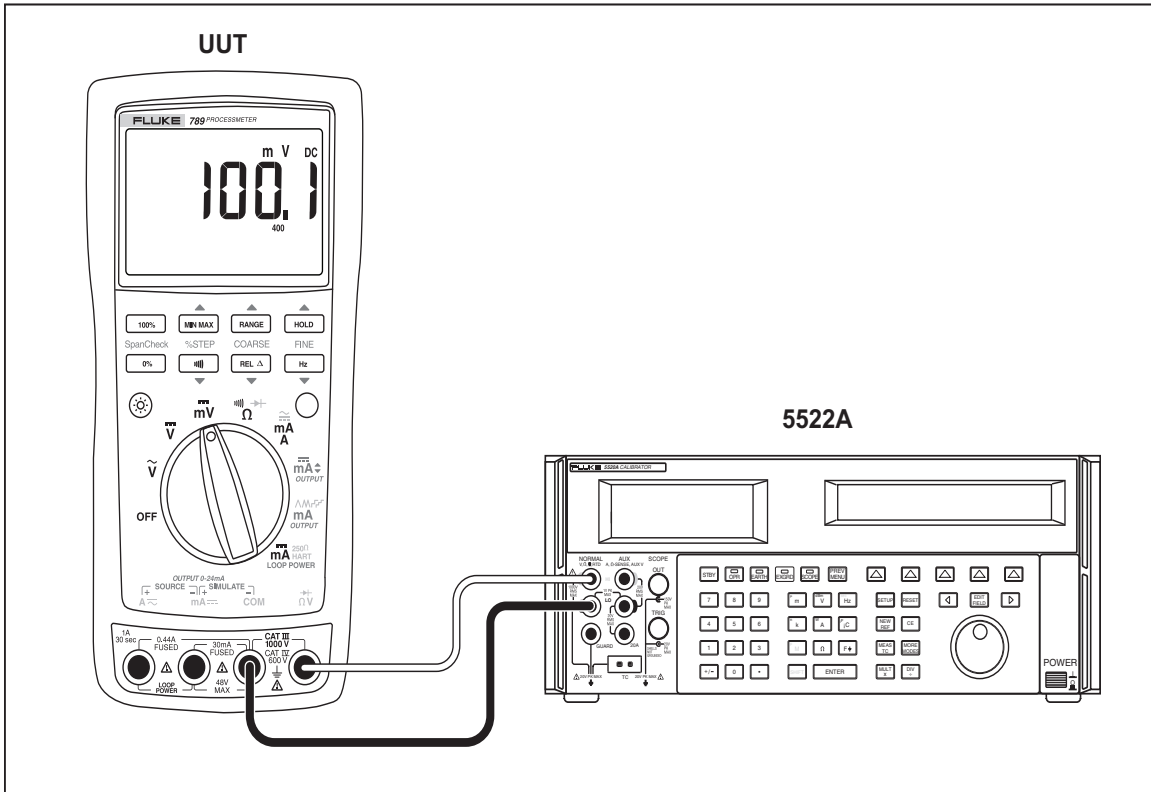

Figure 8. DC mV Measurement Test Connections
3. Connect the calibrator to the **COM** and  $\overline{\text{mV}}$  terminals on the UUT as shown in Figure 8.